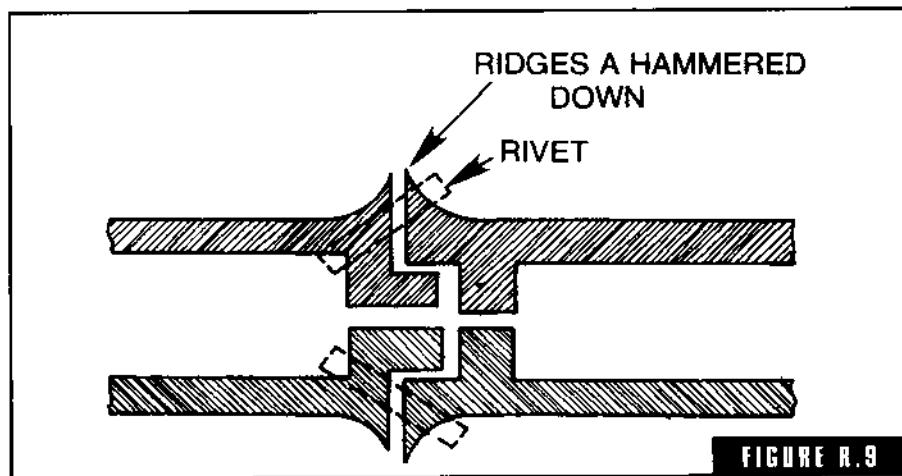

FIGURE R.9
**Roman joint** A joint commonly used in the assembly of the component pieces of a large statuary bronze casting (Fig. R-9). The joint is made so that when properly done it cannot be seen. Knife edge ridges at the mating junction are hammered down flat (cold forged) with a peen hammer and then finished with a file and scraper.